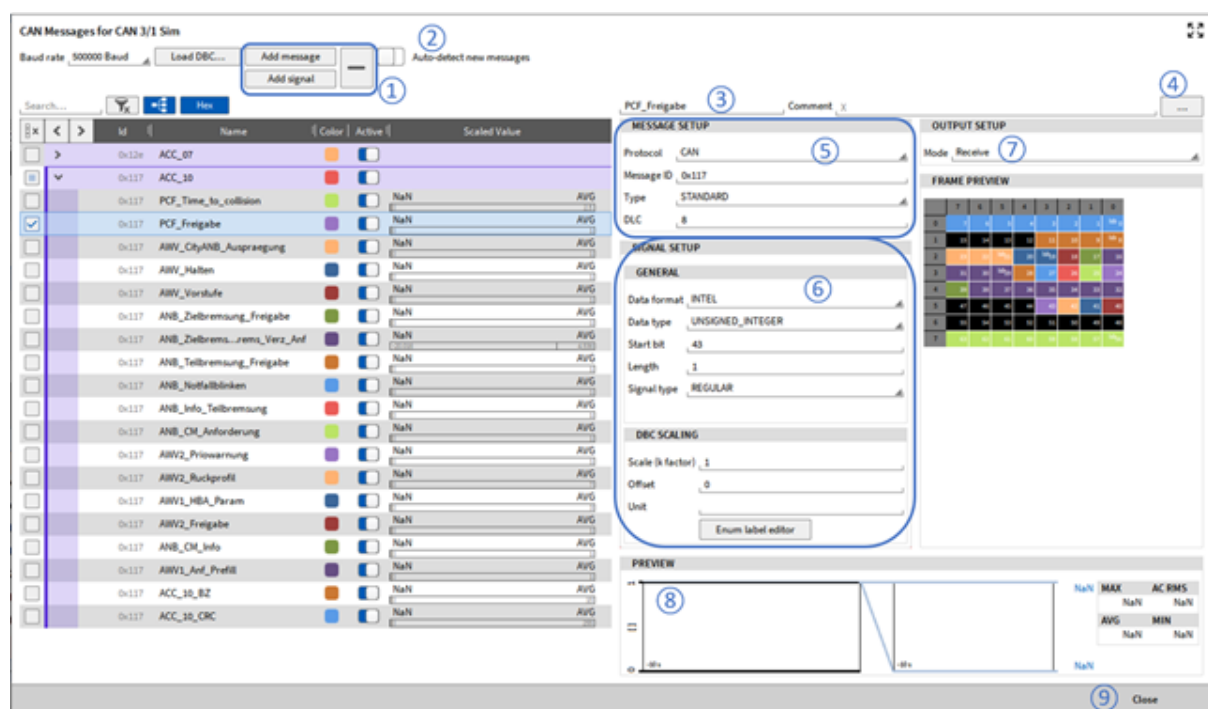

Fig. 7.210: CAN editor overview
- Manually add or delete CAN messages and signals (see ① in Fig. 7.210).
- Scan for CAN messages, which will automatically be created with their ID and DLC. After the scan, a name can be given and signals can be created (see ② in Fig. 7.210).
- Rename the currently selected CAN message and signal (see ③ in Fig. 7.210).
- Add comments to messages and signals (see ④ in Fig. 7.210).
- Edit CAN messages and access the same settings as described in section *CAN message setup* (see ⑤ in Fig. 7.210). With the enum label editor a text label can be defined for a specific, unique signal value which is then shown in the digital instrument (see also *Enum scaling*).
- Edit CAN signals and access the same settings as described in *CAN signal setup* (see ⑥ in Fig. 7.210).
- Set the CAN Message mode to Receive for acquiring data or transmit for outputting OXYGEN data over CAN (see ⑦ in Fig. 7.210).
- Providing a preview of the past 10 seconds of the signal to check if proper settings have been applied to the signal (see ⑧ in Fig. 7.210).
When finished you can exit the CAN editor again by pressing the Close button (see ⑨ in Fig. 7.210).